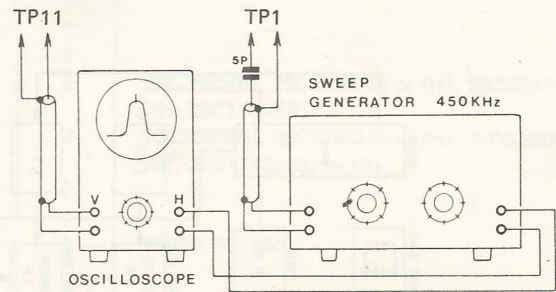

Fig. 1
- (a) Connect the output of the sweep generator to TP1, and the vertical axis input of the oscilloscope to TP11. Let the vertical axis input of the oscilloscope be AC coupling (Refer to Figs. 1 and 3).